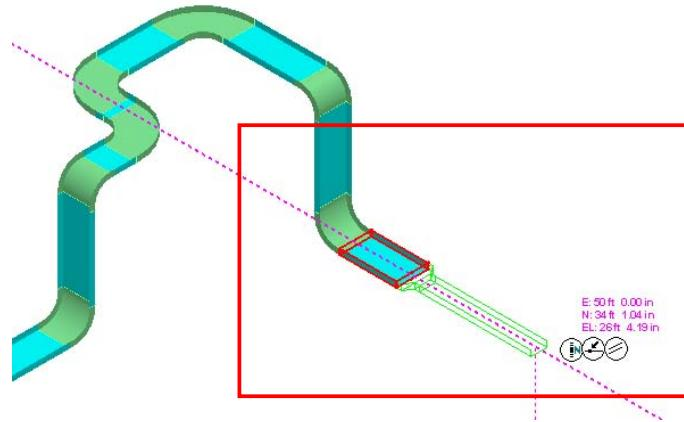

Figure 50: Cableway With Size Change
5. Position the cursor towards the south direction in the graphic view, as shown in Figure 50.